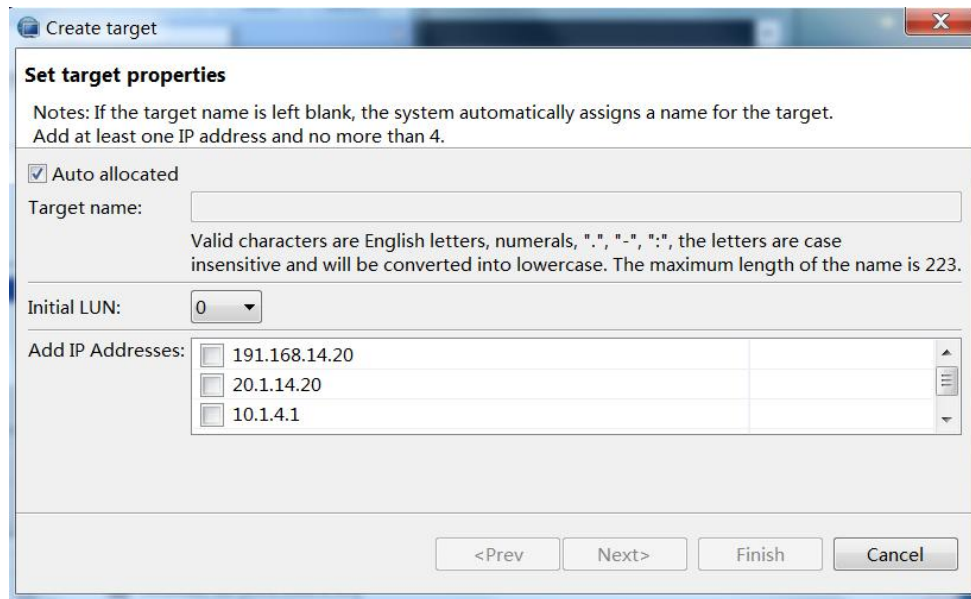

Figure 13-5 Creating a target
- (1) From the **"Device"** tab, expand the path **[Storage Controller > hostname > Target Manager > iSCSI Target]**
- (2) Right click the **[iSCSI Target]** and select **[Create]**, and on the popup dialogue box, set the Target name and IP address, as shown in Figure 13-5: